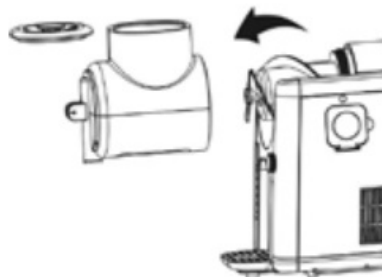

Fig. 8
15. Turn the mixing container anticlockwise and pull it carefully off the housing (Fig. 8).